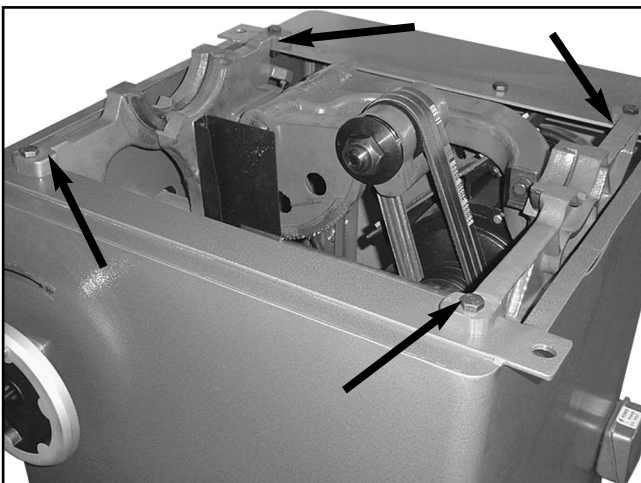

Figure 30. Trunnion mounting bolts.
3. Loosen the four trunnion mounting bolts as shown in **Figure 30**, and adjust the trunnion.